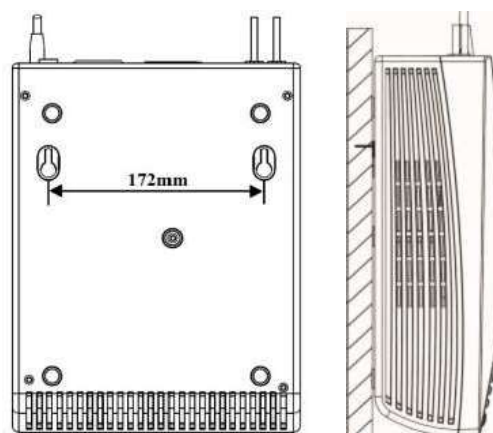

Fig. 1
2. Select an appropriate mounting location. Use a horizontal line and the length of the line must be 172 mm and mark the two ends on the wall.(See Fig. 1)